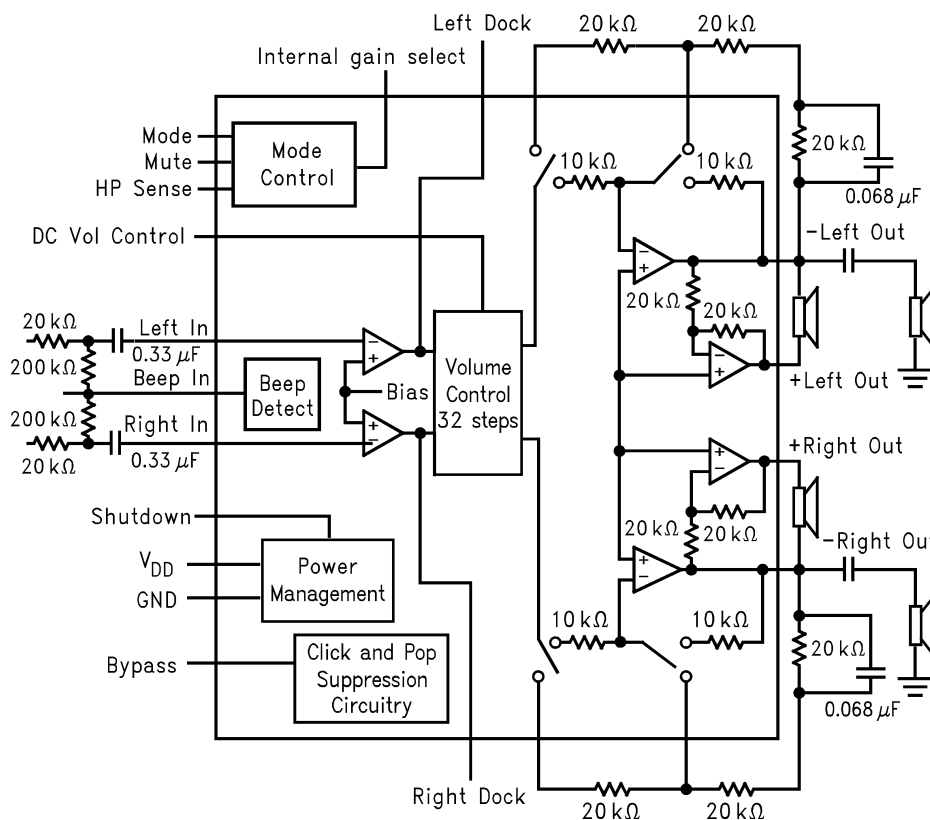

Figure 1. LM4938 Block Diagram
- All voltages are measured with respect to the ground pins, unless otherwise specified. All specifications are tested using the typical application as shown in Figure 1.
- (1) All voltages are measured with respect to the ground pins, unless otherwise specified. All specifications are tested using the typical application as shown in Figure 1.
- (2) *Absolute Maximum Ratings* indicate limits beyond which damage to the device may occur. *Operating Ratings* indicate conditions for which the device is functional, but do not ensure specific performance limits. *Electrical Characteristics* state DC and AC electrical specifications under particular test conditions which ensure specific performance limits. This assumes that the device is within the Operating Ratings. Specifications are not ensured for parameters where no limit is given, however, the typical value is a good indication of device performance.
- (3) Typical values are measured at $25^\circ C$ and represent the parametric norm.
- (4) Limits are specified to Texas Instruments' AOQL (Average Outgoing Quality Level). Datasheet min/max specification limits are specified by design, test, or statistical analysis.
- (5) When driving 3 Ω loads from a 5V supply the LM4938MH must be mounted to the circuit board and forced-air cooled.
- (6) When driving 4 Ω loads from a 5V supply the LM4938MH must be mounted to the circuit board.